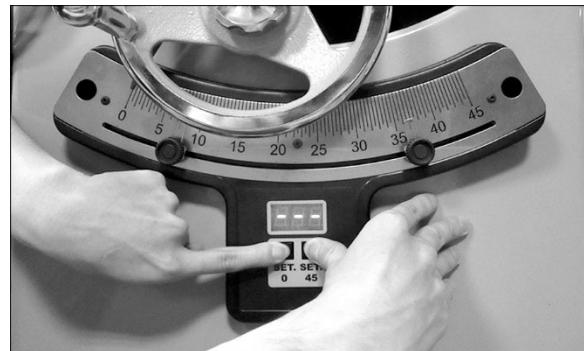

Figure 8-14
4. Press and hold both SET buttons until display shows "---" (Figure 8-14).
8. Press and hold both SET buttons until display shows "---" (Figure 8-14).